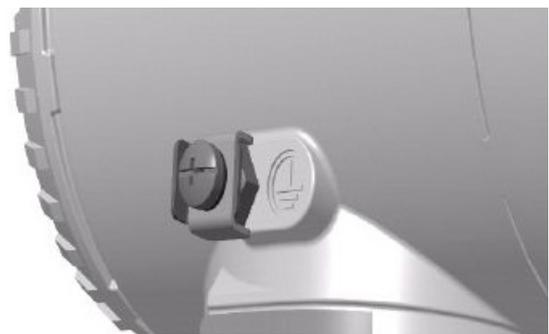

Figure 6.4 — Ground connection on transmitter housing
A terminal is available on both the outside of the housing and in the plug for grounding (PE) the transmitter. Both terminals are electrically connected to one another (see Figure 6.4).